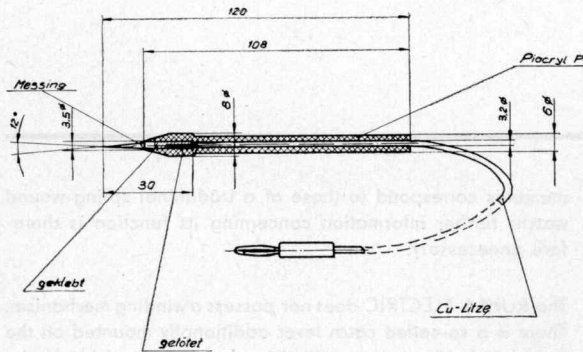

Fig. 3
- (4.1.3) Two insulated feeler tips, according to Fig. 3 (easily self-made)